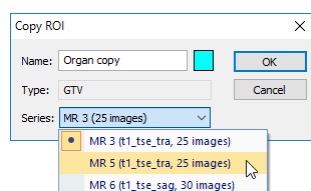

Figure 245 – Copy ROI dialog - selecting the target series
3. Select the target series from the **Series** drop-down menu (see Figure 245). It is only possible to select a target series that is registered with the source ROI series.